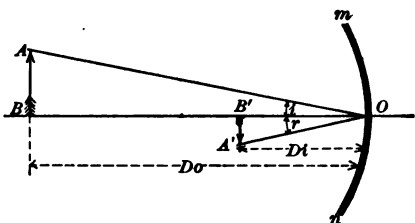

FIG. 398. — To get the size of a real image.
**426. Size of a real image.** Let us draw the rays  $AO$  and  $OA'$  (Fig. 398). From the law of reflection, the angle of incidence  $i$  is equal to the angle of reflection  $r$ . Therefore, the right triangles  $AOB$  and  $A'OB'$  are similar, and their corresponding sides are in proportion. That is,